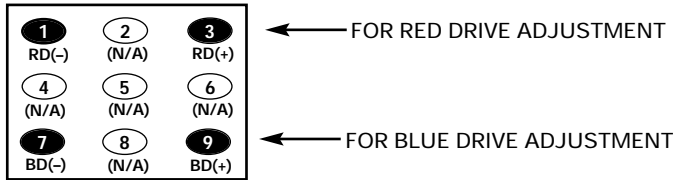

Figure 2.
**Red/Blue Drive Adjustments in Service Menu NO. A8 DRV:** Adjust Red and Blue Drive Levels alternately with 1, 3, 7, and 9 keys on the remote control. See Figure 2. The Drive Level adjustment data will be written in the Service Menu No. 4B RD and 4C BD automatically.